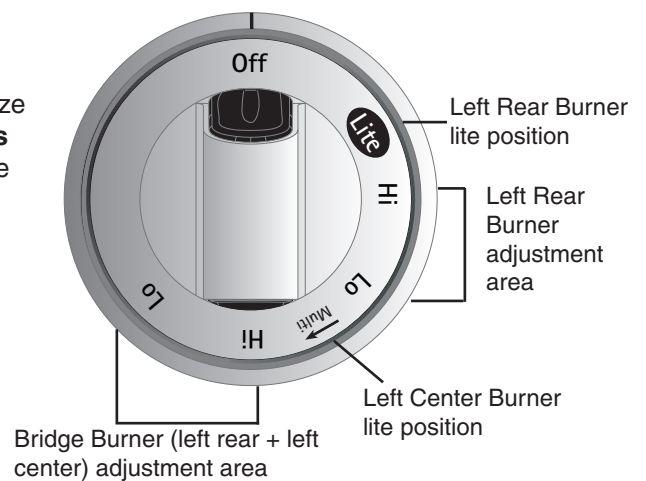

Figure 3
5. Visually check that both the left rear and left center Burners are lit. Adjust the flame size by turning the control knob between the **second HI and LO settings** (See Figure 3).
4. Visually check that the left-rear burner has lit. Adjust the flame size by turning the control knob between the **first HI and LO settings** (See Figure 3). **DO NOT** cook with the surface control knob in the LITE position (The electronic ignitor will continue to spark if the knob is left in the LITE position).